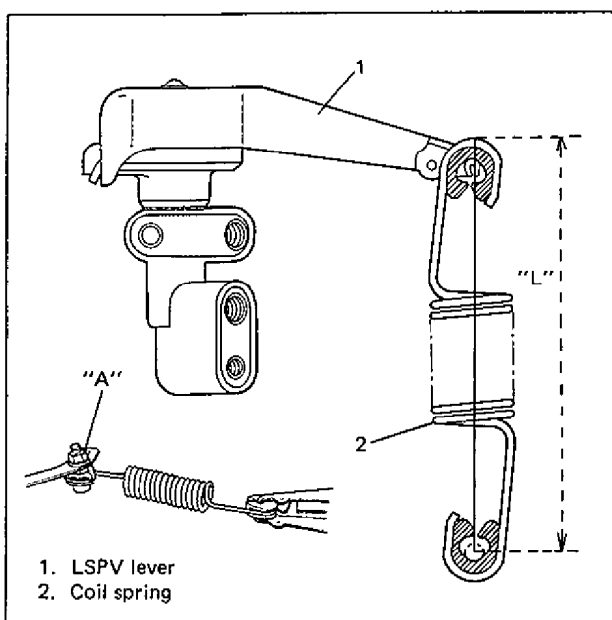

Fig. 5-103-6
- 4) If it isn't, adjust it to specification by changing bolt "A" tightening position as shown in Fig. 5-103-6. After adjustment, tighten nut to specified torque.
For details, refer to Fig. 5-103-6.